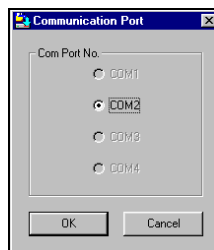

Figure 6-2 The Com Option box
2. From the Options menu choose Com Port. The Com Port box appears. See Figure 6-2.